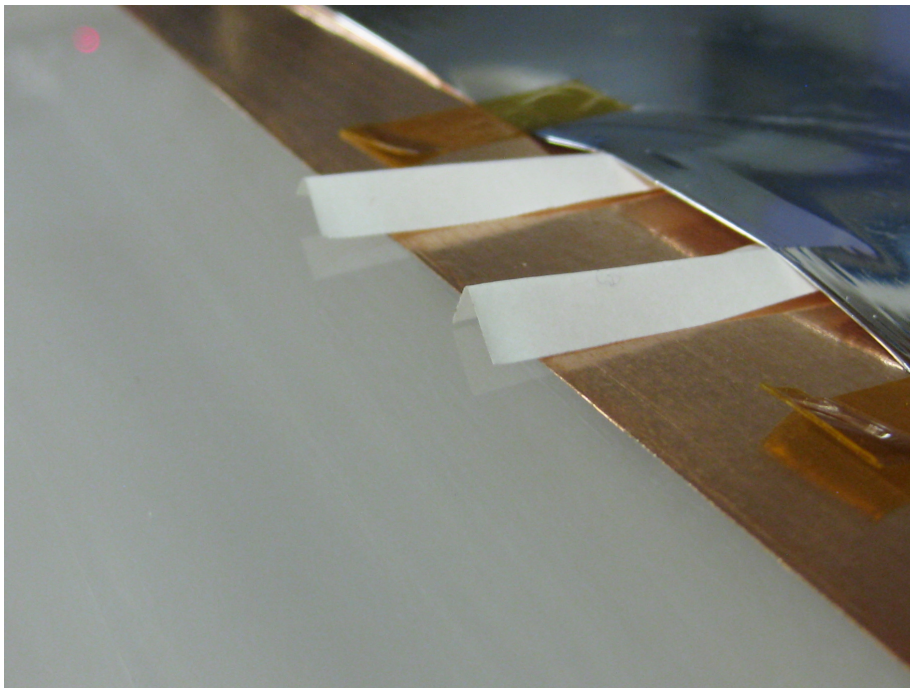

Figure 20: Two paper shims lift up the thin-film.
1. Use the paper shim to lift up the thin-film (Figure 20).